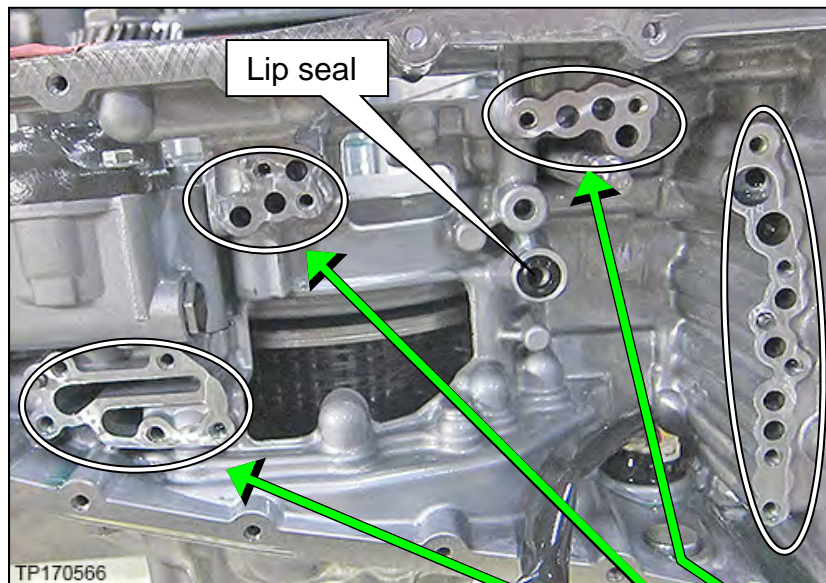
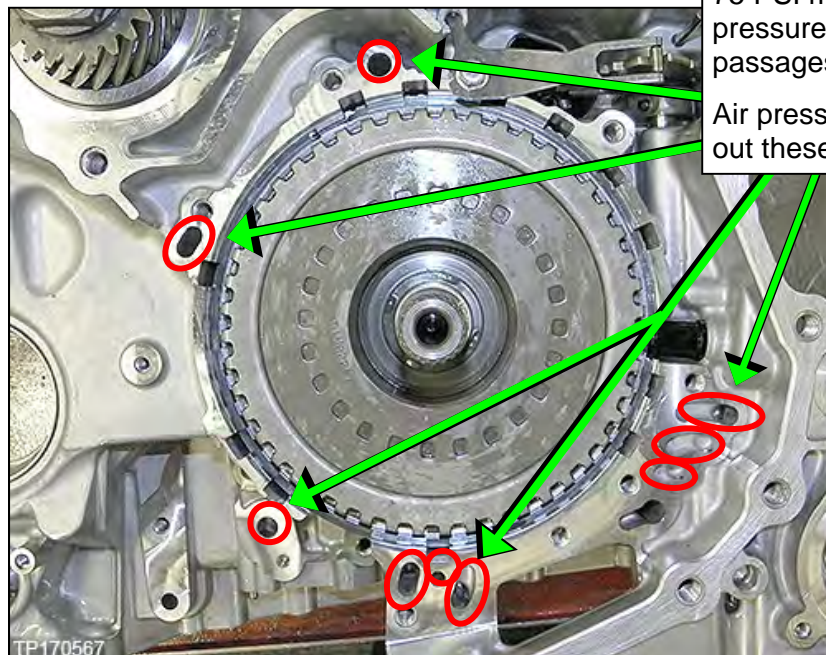

Figure 63
Figure 64
39. Spray brake clean in all oil passages of the CVT case where shown in Figure 63 and Figure 64.